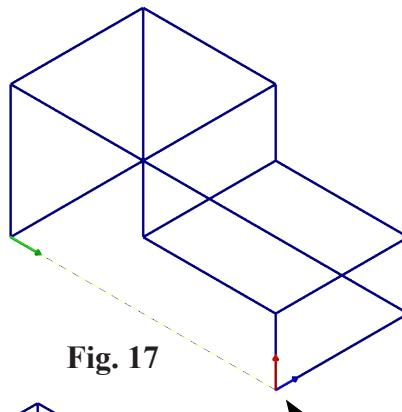

Fig. 17
1) At the branch point, Fig. 17, click **Adjust**